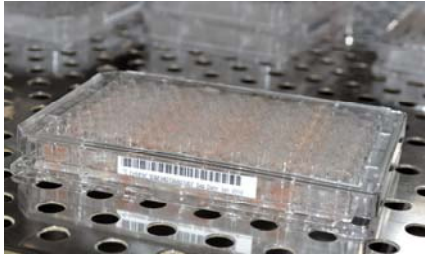

Figure 4. Gravity Fed Perfusion in Incubator
16. Place the plate into a standard cell culture incubator for long term culture (Figure 4).